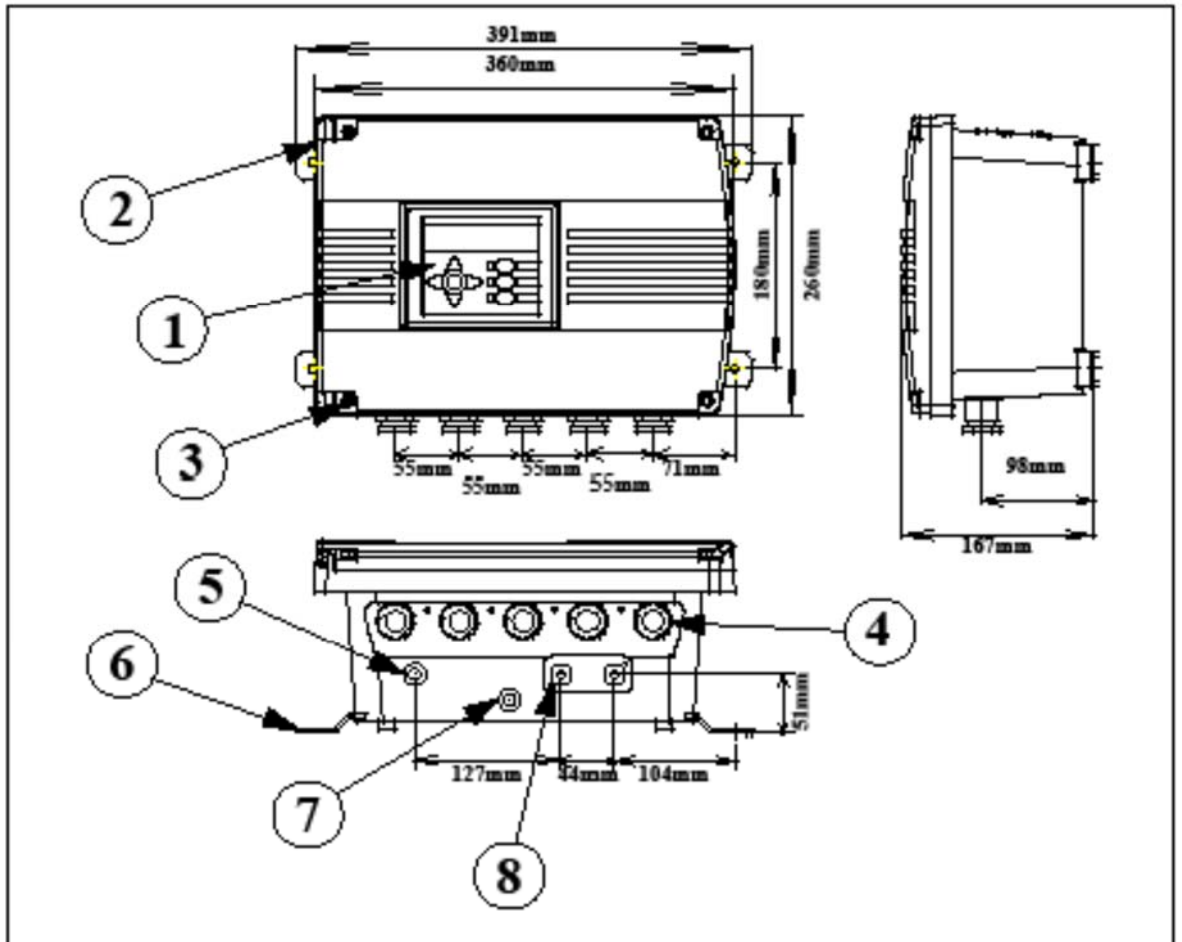

Figure 16. Control unit installation
Refer to Figure 16.
To comply with the European Community EMC Directive the cables connected to the mains supply, relay contact outputs, analogue outputs, and dry contact inputs shall be screened. In addition, the EMC earth terminal on the control unit (Figure 16, item 7) must always be connected to a local EMC earth (ground). The conductor used must not exceed 2m in length.
- Gland entry sizes and positions are shown in Figure 16. Unused entries should be fitted with appropriate blanking plugs.
- Electrical power should be supplied at 100-120V or 220-240V (+10% -15%) 50/60 Hz. To gain access refer to Figure 16. Unscrew the four M6 bolts [3] using a 5mm Allen key and open the control unit door. Ensure that the transformer primary connection (PL6 or PL7 in Figure 16) and the main power fuse rating (F1) are appropriate for the electrical supply voltage (see Table 12).
The enclosure purge inlet and outlet connection sizes and location are shown in Figure 16.